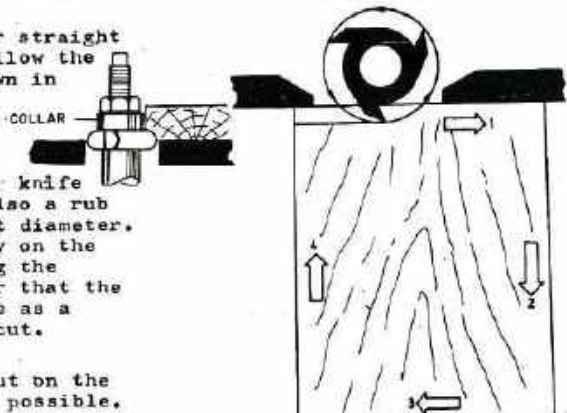

Fig.698. SHAPING AGAINST COLLAR AND STEPS HOW TO SHAPE ALL FOUR EDGES OF A BOARD
9. When shaping all four straight edges on a board, follow the sequence of cuts shown in Fig.698.
1. Select the cutter or knife blade assembly and also a rub collar of the correct diameter. Fasten these securely on the spindle. In selecting the collar size, remember that the rub collar will serve as a depth gauge for the cut. See Fig.698.